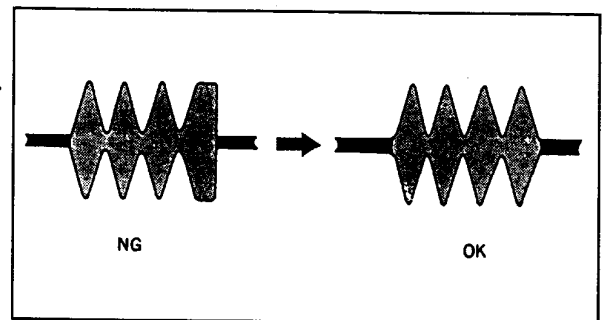

Fig. 58
- 2) Select the REV mode and check the RF waveform at the outlet side. (Fig. 58)